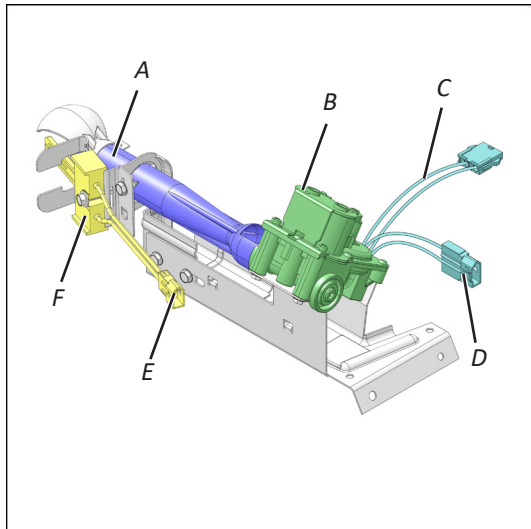
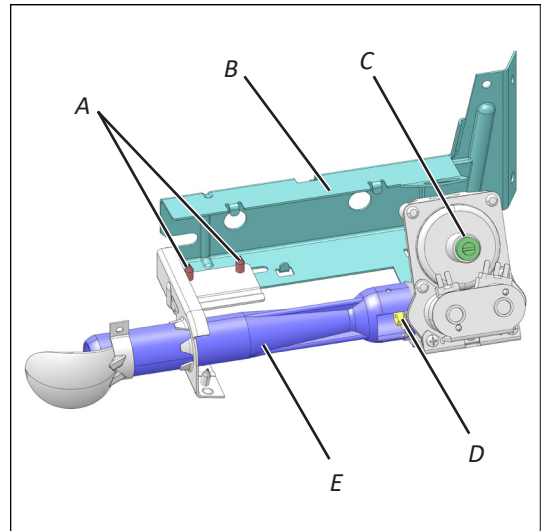

Figure 1
Figure 2
12. Remove the burner orifice from the valve and replace it with the proper orifice furnished in this kit. Orifice number is stamped on one edge of the hex head of orifice. Securely tighten. See Figure 2 above.
13. Put the burner tube back on the burner assembly. Securely tighten the two (2) mounting screws. Reconnect the ignitor to the harness. See Figure 1 and Figure 2 above.